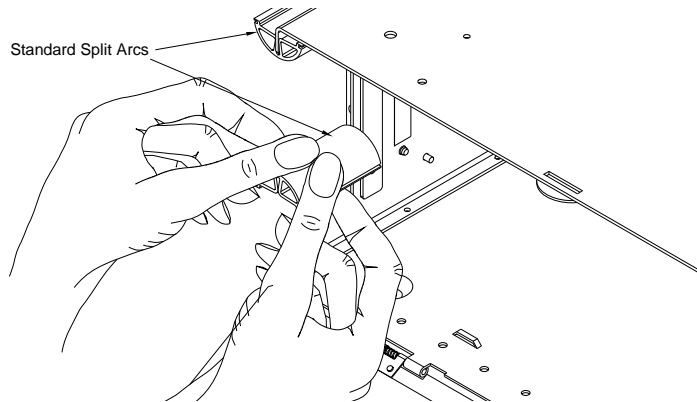

Figure 31 - Installing a Standard Split Arc
- a. Installing standard split arcs: Slip the arc over the top and/or bottom edges of the chassis at the entry/exit corners. See Figure 31.